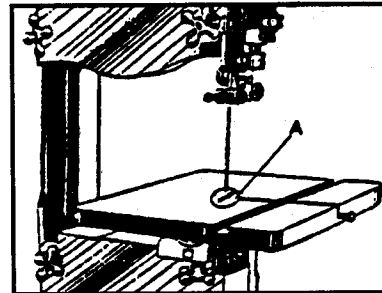

Fig.14
Place table insert (A) Fig. 14. In the hole provided in the table making sure the pin in the table engages one of the indents in the table insert.
Move table when place table insert(A) Fig. 14 to make sure the blade be in the center of (A).